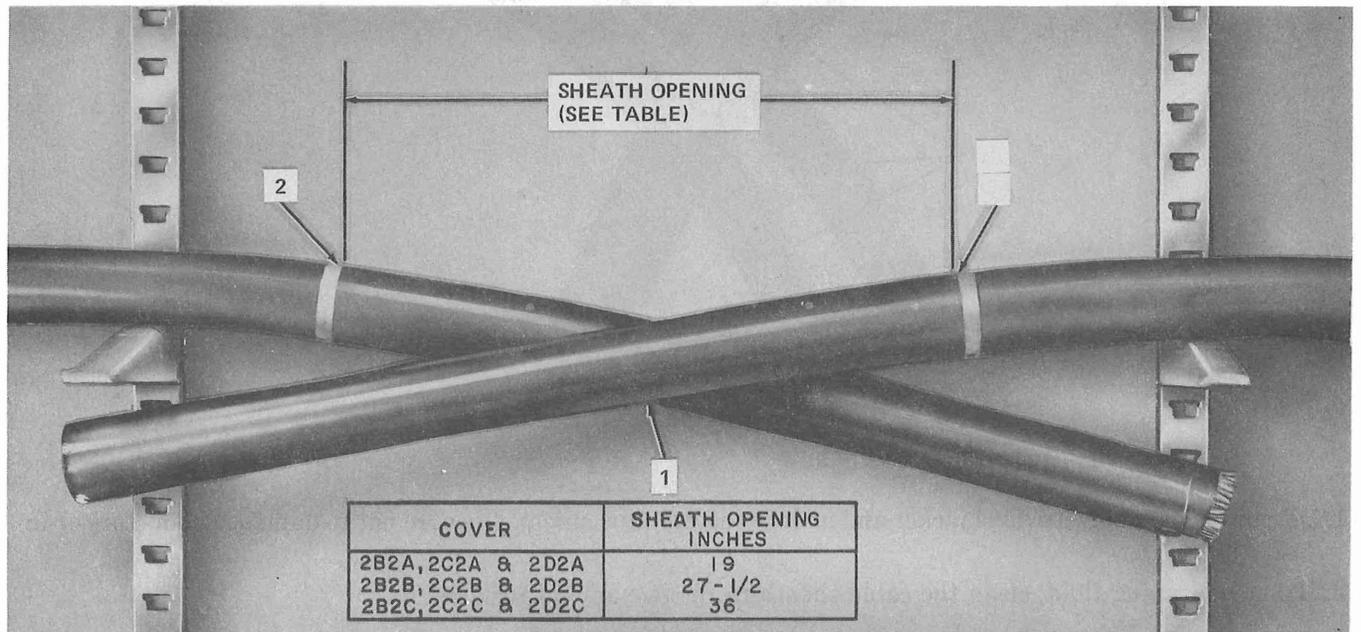

Fig. 11—Mark Cable Sheath
3.01 Prepare cable sheath as illustrated in Fig. 11 and 12.